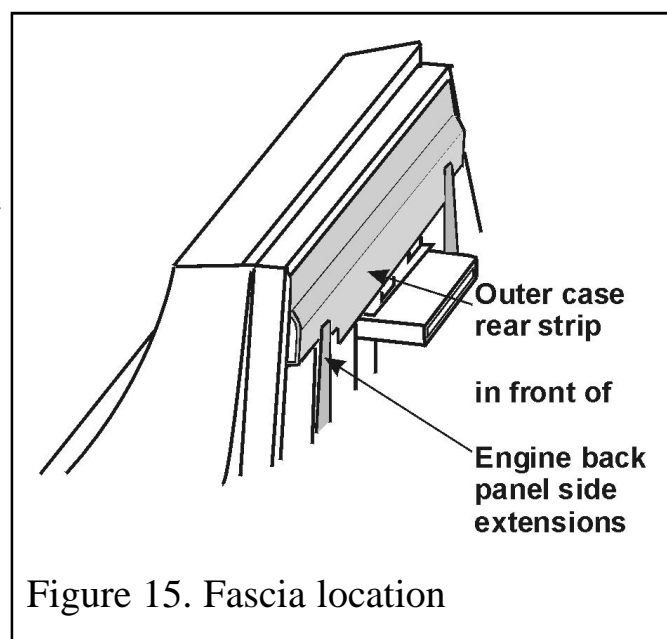

Figure 15. Fascia location
**8.1.2** Refit the fascia. The fascia top rear strip should locate in front of, but touching, the side extensions of the engine back panel (See figure 15).
**9.2.5** Replace in the reverse order. Make sure that the fascia top rear strip locates in front of, but touching, the side extensions of the engine back panel. See figure 15 in the 'Final assembly and review' section.